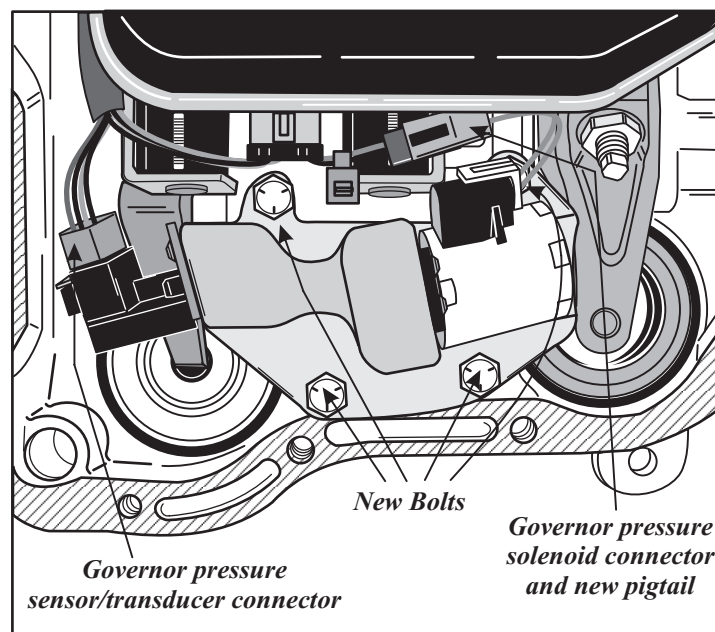

Figure 3
4. Install the new manifold onto the valve body and install the four new bolts supplied. Torque bolts to 100 in.lbs. or 12 Nm. (*Note: The previous bracket and torx bolts are no longer used*). Re-connect the Governor pressure sensor/transducer and connect the new pig-tail supplied to the two terminal connector for the Governor pressure solenoid. Rotate the solenoid towards the filter and tuck the new harness above the filter edge as shown below in Figure 3. Re-install the transmission pan and refill with fluid.